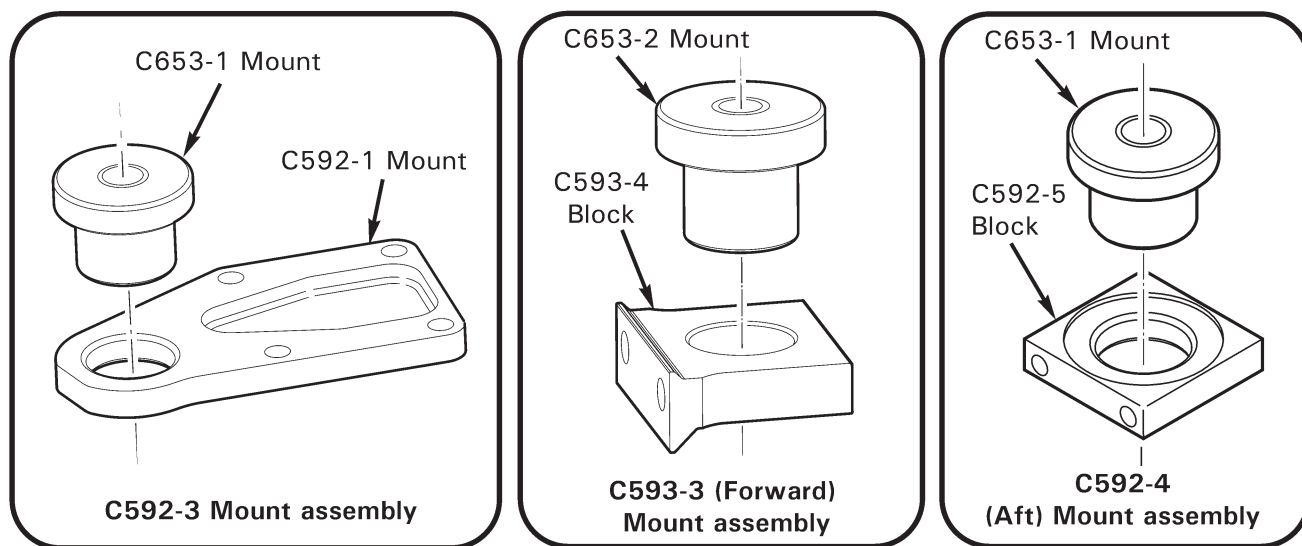

FIGURE 6-2A ENGINE MOUNT REPLACEMENT
6. Refer to Figure 6-2A. Apply a light coat of A257-8 rubber lubricant or clean, potable water to new C653-1 or -2 mount at rubber smaller-diameter and press into C592-1 mount, C592-5 block, or C593-4 block. Wipe off excess lubricant or water.